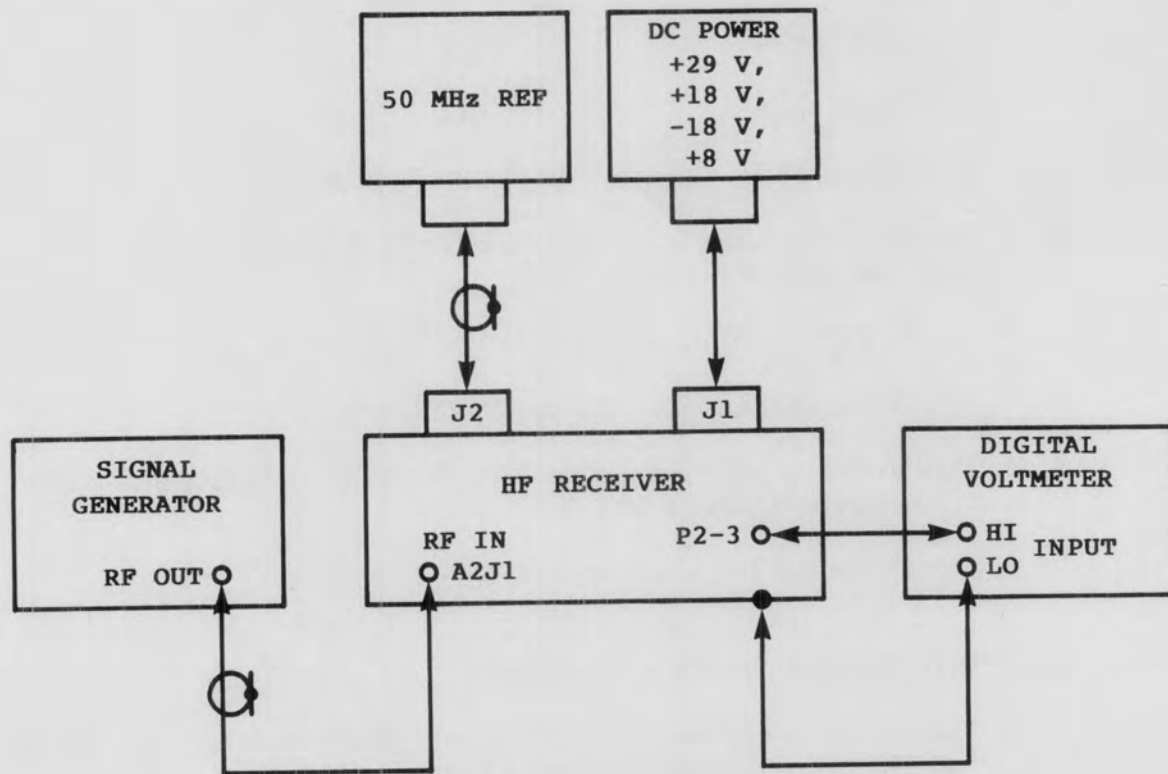

Figure 4-9. Signal Strength Full Scale Output Adjustment Equipment Setup
1. Connect receiver as shown in **Figure 4-9**.